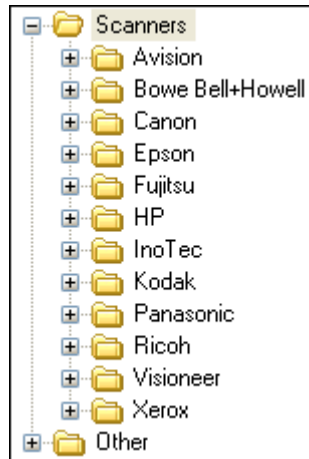

Figure A-2. Scanner Manufacturer List
- 3 Expand the manufacturer node to locate and select the name of your scanner model (Figure A-2).